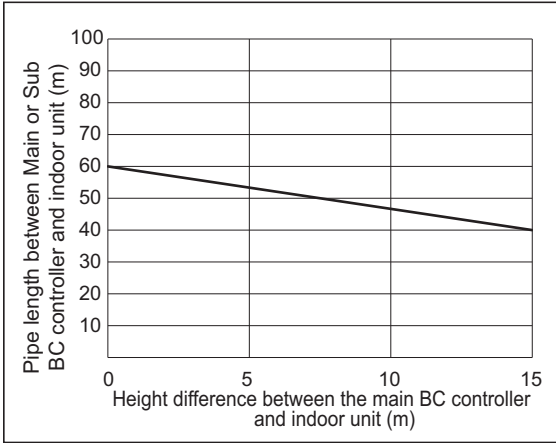

Fig. 2
- *2. Details refer to Fig. 2.
- *9. When the piping length or the vertical separation exceeds the limit specified in Fig. 2, connect a sub BC to the system. The restriction for a system with a sub BC connection is shown in Fig. 3. When a given system configuration falls within the shaded area in Fig. 3, increase the size of the high-pressure pipe and the liquid pipe between the main BC and sub BC by one size. The maximum liquid branch pipe diameter is ø19.05. If a given system already has a ø19.05-pipe between the main BC and sub BC, there is no need to increase the pipe size. When using M32, M40, M50, M100, or M125 model of indoor units, increase the size of the liquid branch pipe between the sub BC and indoor unit by one size. When using indoor models M140 or larger, the restrictions shown in Fig. 2 cannot be exceeded.
*9. When the piping length or the vertical separation exceeds the limit specified in Fig. 2, connect a sub BC to the system.
When using indoor models M140 or larger, the restrictions shown in Fig. 2 cannot be exceeded.